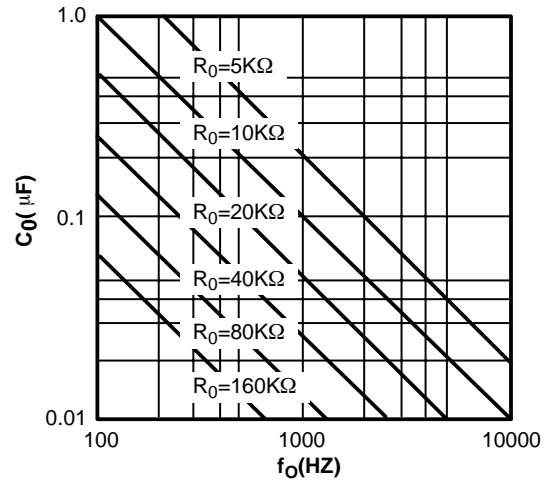

Figure 6. VCO Frequency vs. Timing Resistor
VCO Timing Capacitor (Pins 13 and 14): VCO frequency is inversely proportional to the external timing capacitor, C_0 , connected across these terminals (see *Figure 6*.) C_0 must be non-polar, and in the range of 200pF to 10μF.
- Calculate value of C_0 from design equation (1) or from *Figure 6* $f_S = f_0$: